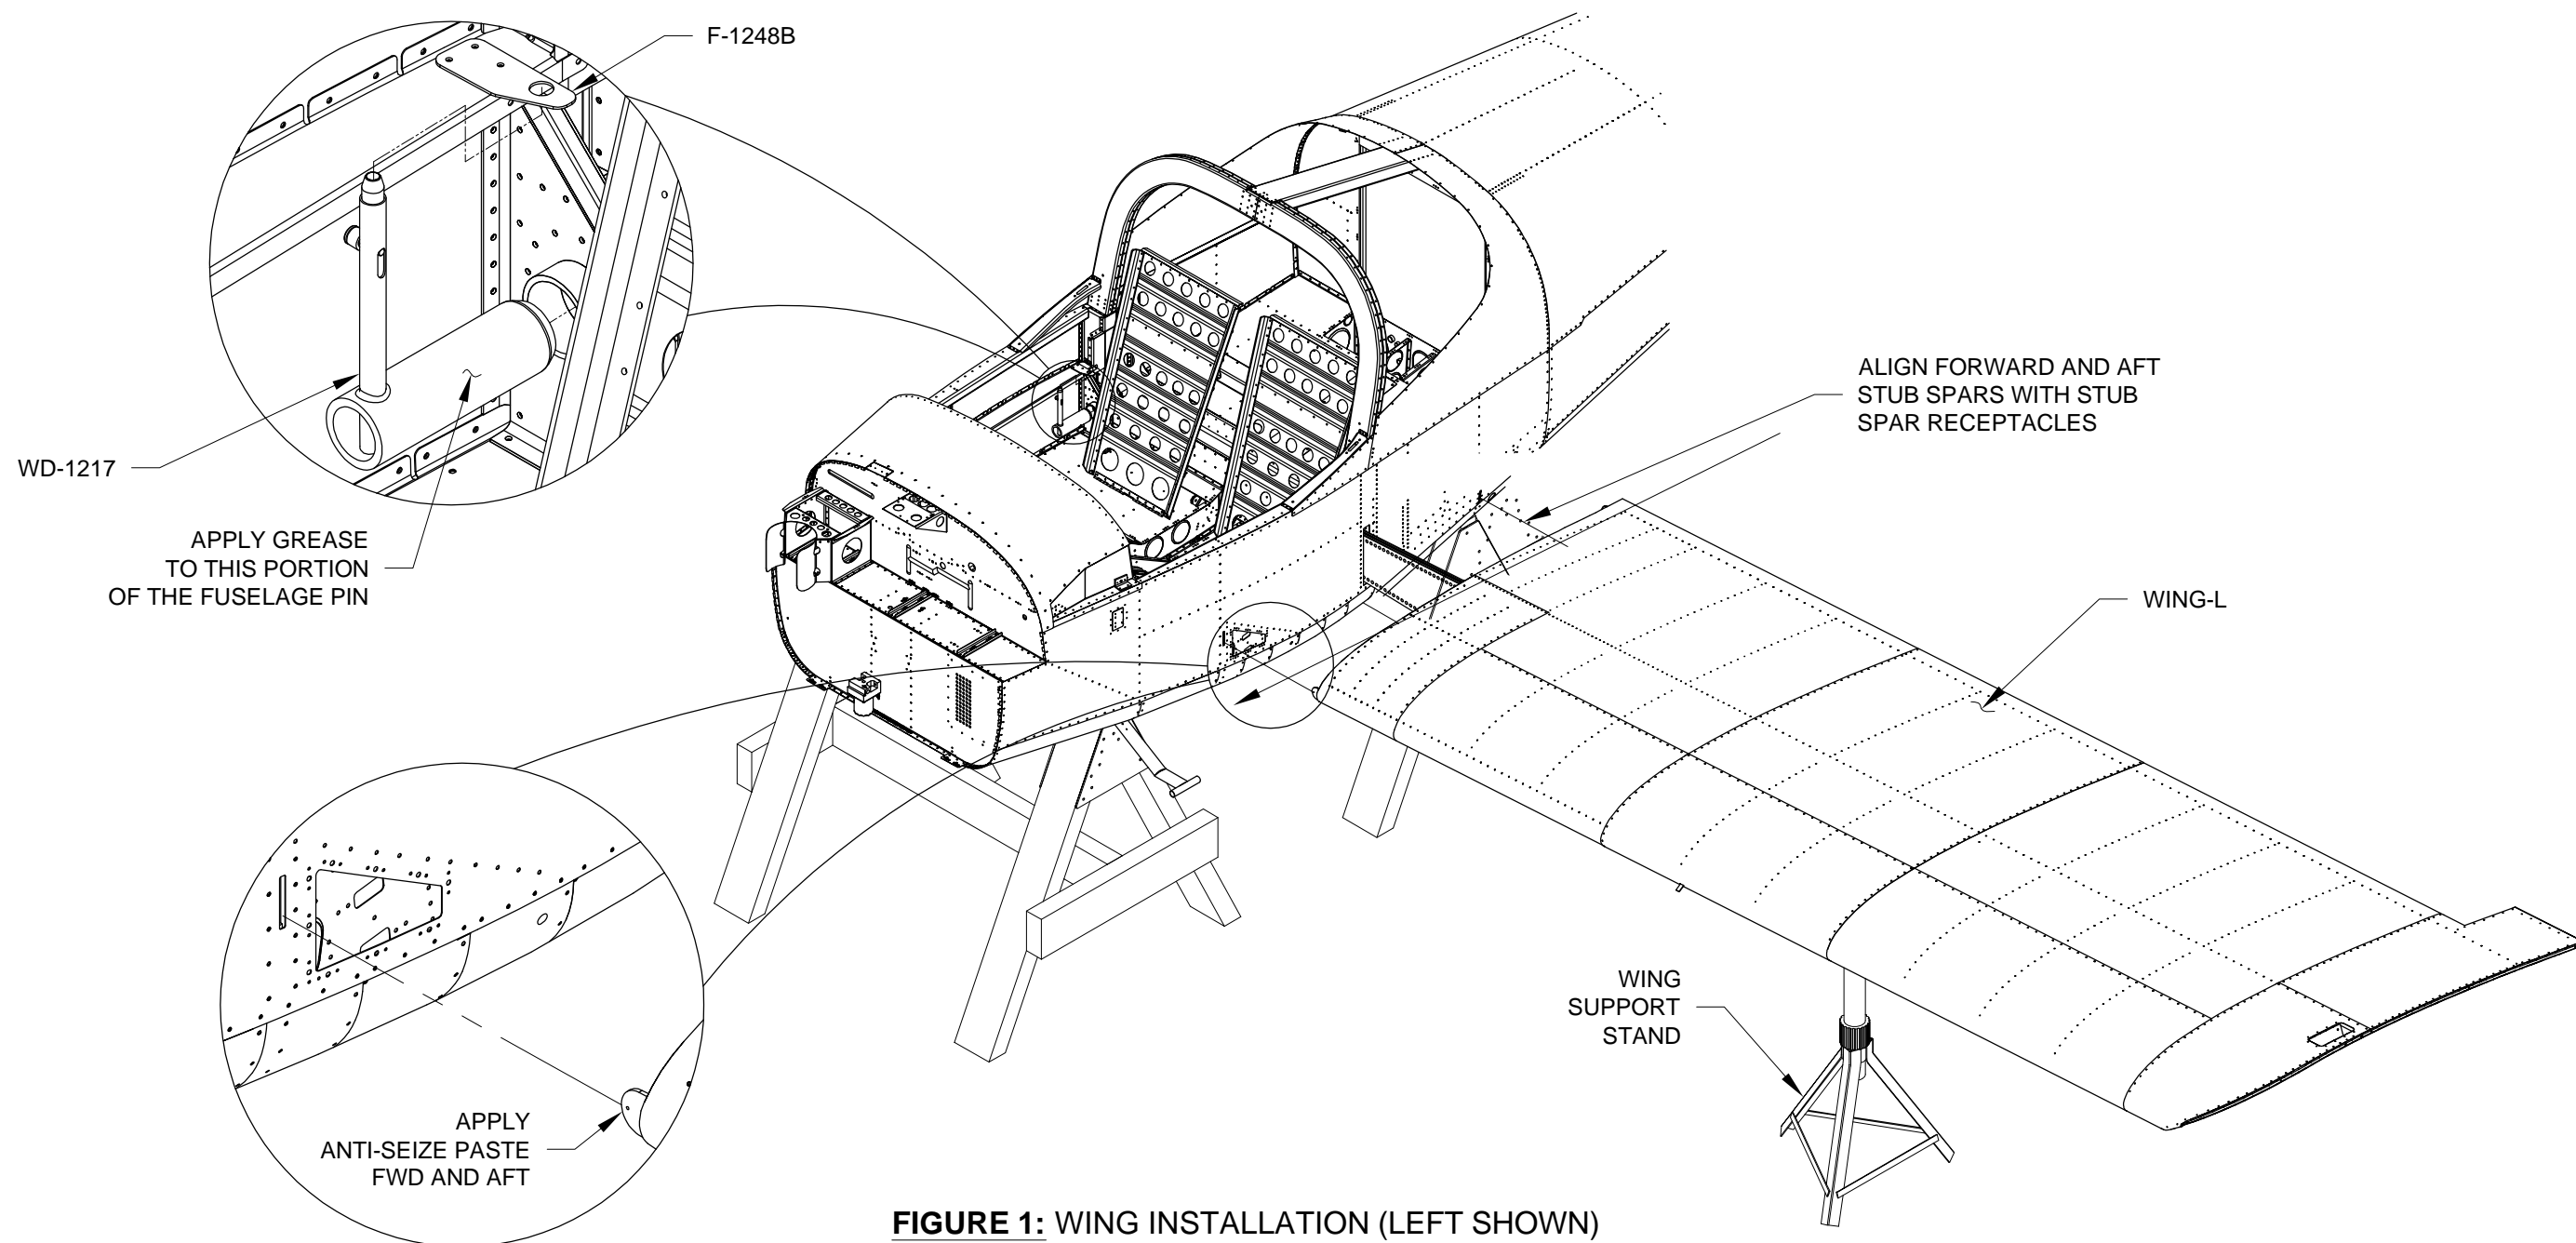

FIGURE 1: WING INSTALLATION (LEFT SHOWN)
Step 1: Place a layer of carpet or an old blanket on the work surface. Lay the left wing upside-down on the work surface and position the left flaperon as shown. Attach the left flaperon to the left wing using the hardware called out in Figure 1. Install the A-1211 Pivot Guide as shown in Figure 1.